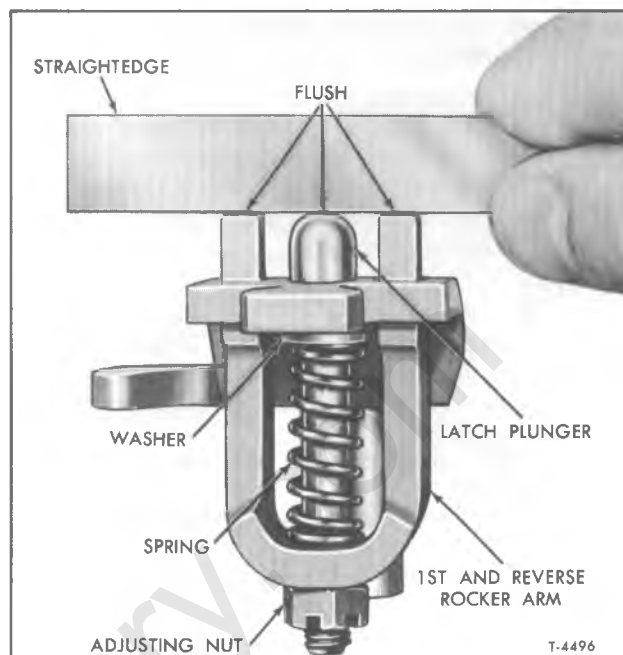

Figure 7—Reverse Latch Plunger Adjustment
1. Position selector sleeve and ball assembly (25) in remote control housing (33), then install washer (34) and cap screw (35). Tighten screw firmly.
2. Position selector arm and shaft assembly (22) and spacer (23) in housing, then install washer (14) and snap ring (15).
3. Assemble reverse latch plunger (24), washer (27), spring (28), and nut (29) to 1st and reverse rocker arm (26).
4. Adjust reverse latch plunger so rounded end is flush or slightly below the two flat ends of the 1st and reverse rocker arm as shown in figure 7. Secure adjusting nut in proper position with a cotter pin.
5. Position shift finger (21) in housing (33); then install shifter shaft (12) in housing, aligning splines of shifter shaft with splines of selector sleeve and ball assembly (25), and hole in shifter shaft with hole in shift finger (21).
6. Install shift finger screw (20). Tighten screw to 25 foot-pounds torque and secure with lock wire.
7. Install attaching parts that retain shifter shaft collar (11) to shifter shaft (12).
8. Install attaching parts that hold shift lever assembly (7) to shift lever mounting bracket (5). Tighten nut to 25-31 foot-pounds torque.
9. Install attaching parts that hold shift lever mounting bracket (5) to housing (33). Be sure shift lever assembly (7) is properly seated in slot of shifter shaft collar (11).
10. Position selector lever (18) on selector arm and shaft assembly (22), so that the selector lever is perpendicular to the gasket side of the housing (33). Tighten nut (16) firmly.